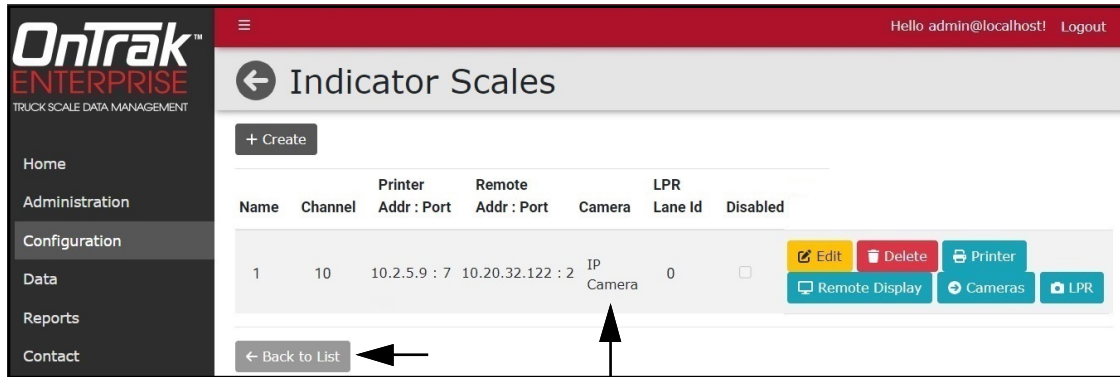

Figure 6-20. Indicator Scales with Camera Information
7. The Indicator Scales page displays with the camera added (see Figure 6-20 on page 77).